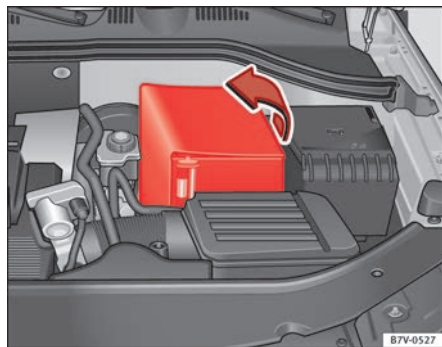

Fig. 174 In the engine compartment: Unfold the vehicle's battery hose.
- *In the case of a hose:* fold the cover to one side to remove ⇒ fig. 174.